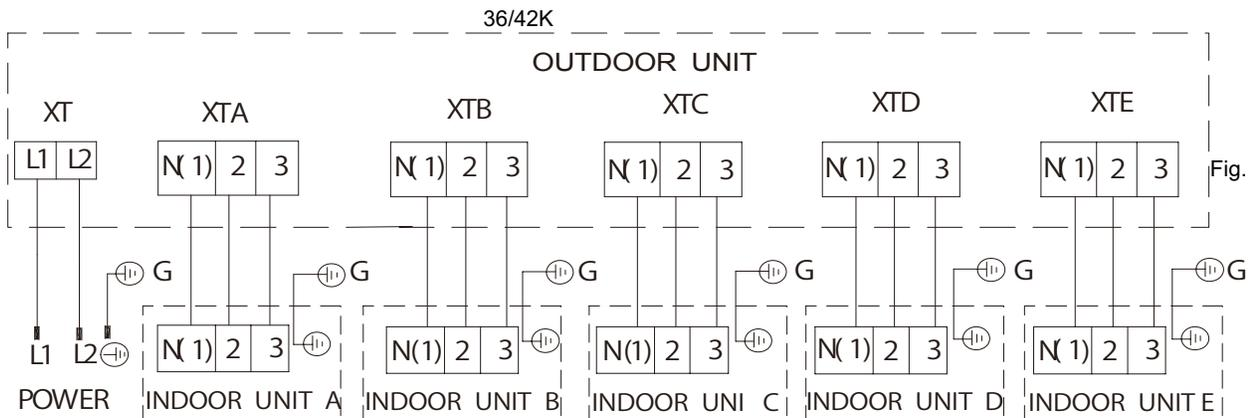

Fig.10
- 3)As shown in the following figure (Fig.10), expel the gas inside the indoor unit and refrigerant pipe with the vacuum pump.